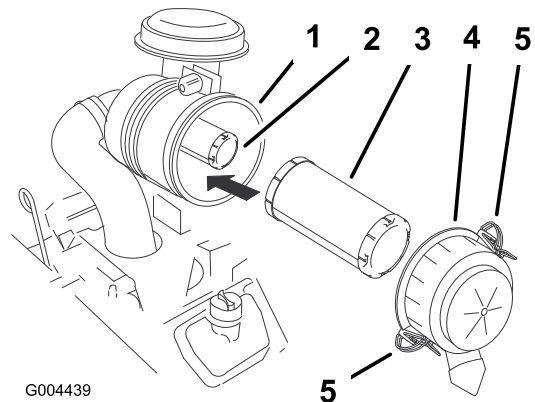

Figure 31
3. Clean around the air cleaner to prevent dirt from getting into the engine and causing damage. Release the latches on the air cleaner and pull the air cleaner cover off of the air cleaner body (Figure 31).
4. Clean the inside of the air cleaner cover with compressed air (Figure 31).
5. Gently slide the primary filter out of the air cleaner body (Figure 31). Avoid knocking the filter into the side of the body.
1. If installing new filters, check each filter for shipping damage. Do not use a damaged filter. (Figure 31).
2. If the safety filter is being replaced, carefully slide it into the filter body (Figure 31).
3. Carefully slide the primary filter over the safety filter (Figure 31). Ensure that it is fully seated by pushing on the outer rim of the filter while installing it.
4. Install the air cleaner cover with the side indicated as **UP** facing up and secure the latches (Figure 31).